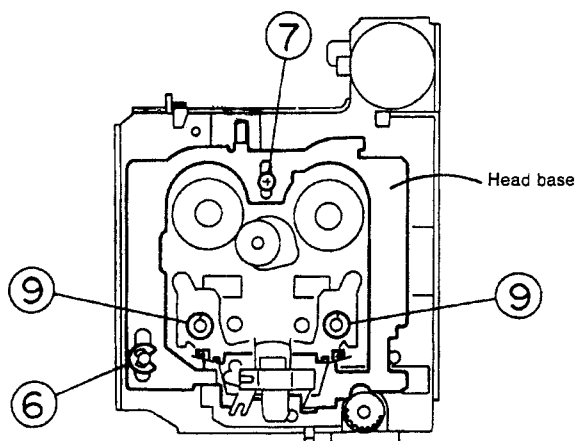
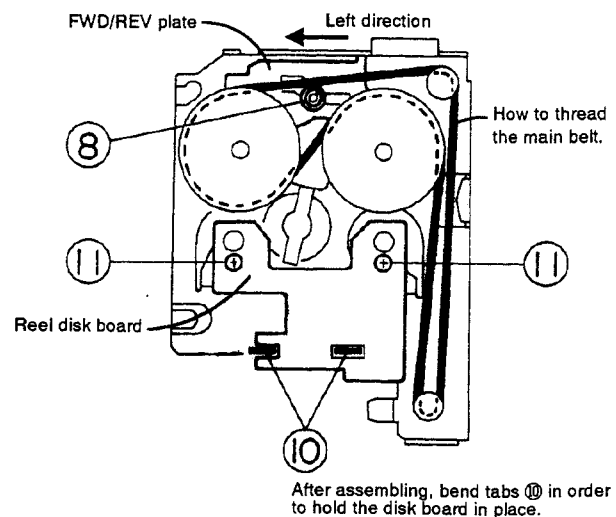
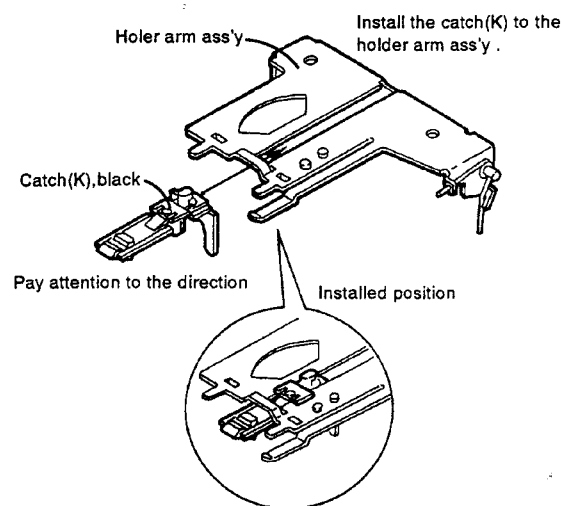

Fig. 4-18
Fig. 4-19
Fig. 4-20
■ Head base (See Figs. 4-18 and 4-19)
- 3) Remove the E washer ⑥ from the left shaft of the pinch roller.
- 4) Remove screw ⑦ for the head base.
- 5) Turn the head base upside down, then remove the C washer ⑧ securing the collar which secures the FWD/REV plate (the collar can also be removed.) (At this time, if the main belt is removed, operation will be made easier.)
■ Flywheel ass'y (See Figs. 4-18 and 4-19)
- 3) Remove two C washers ⑨ attached to the capstan shaft (remove both the right and left washers).
■ Reel disk board ass'y (See Fig. 4-19)
- 1) Straighten the bent tabs ⑩ holding the reel disk board.
- 2) Remove two screws ⑪ fixing the reel disk board.
■ How to assemble the cassette holder and sub chassis (See Figs. 4-20 through 4-23)
step1. How to Install the catch (K)